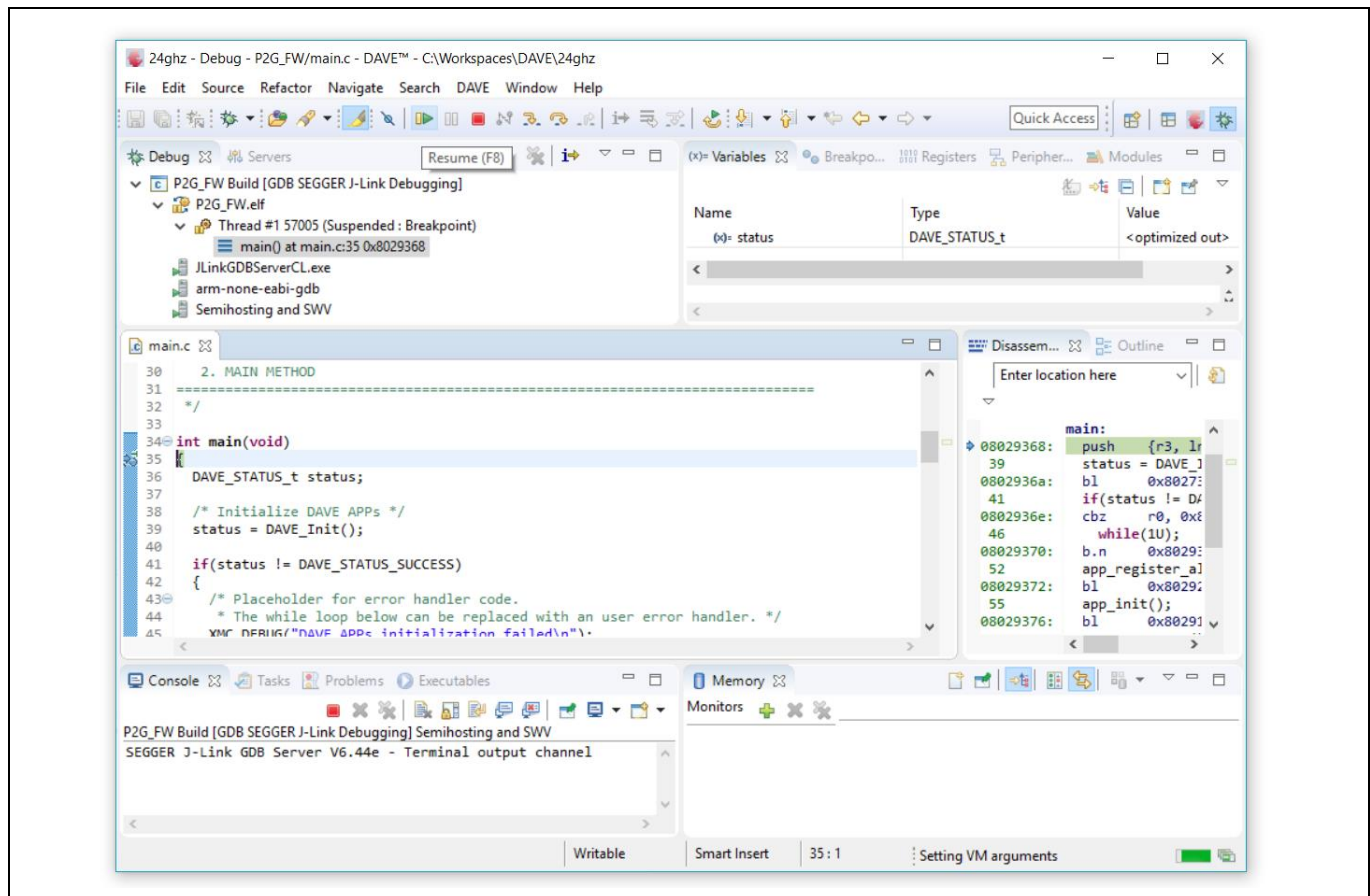

Figure 33 DAVE™ debug perspective
- In this way, the Flashing process is started, the firmware image is loaded into the XMC™ microcontroller Flash memory and DAVE™ automatically switches to the debug perspective, as shown in Figure 33.